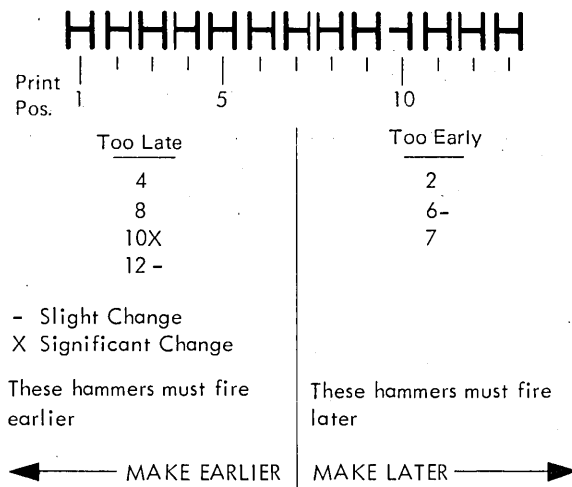

Figure 1-17. Print Position Reference
7. Prepare a card for registration to be set (Figure 1-17).